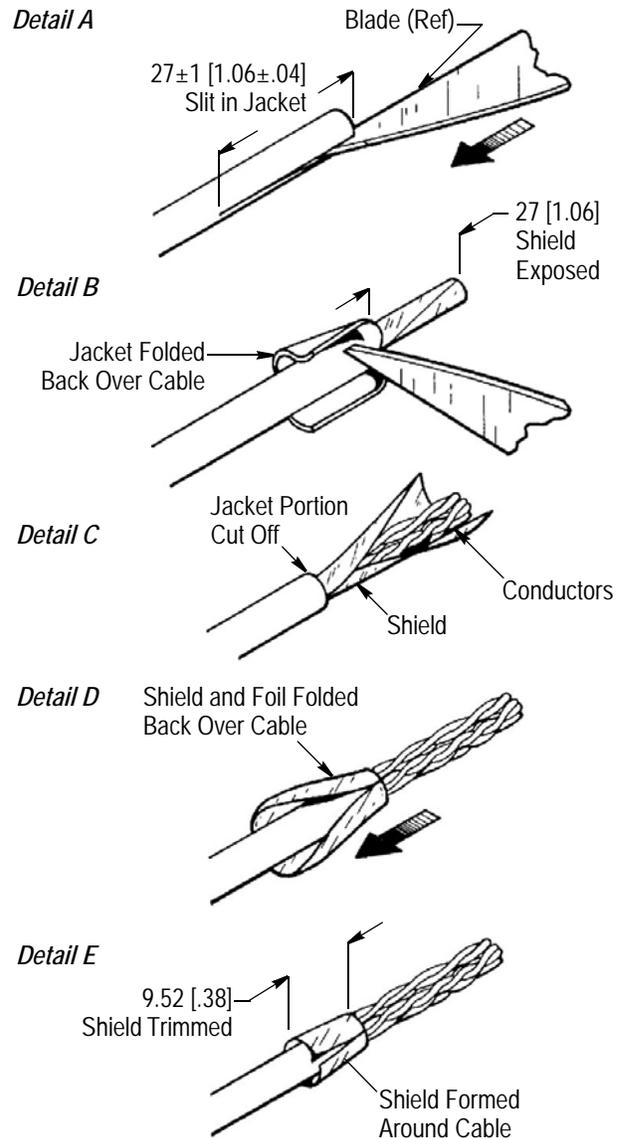

Figure 3
- a. Insert a blade tip between the shield and jacket. Slit the jacket back from the end to the dimension given in Figure 3.
jacket. Take care not to cut the shield. It is recommended that the conductors enclosed by the shield extend to the dimension given in Figure 3.
e. Trim the shield to the approximate length given in Figure 3. Form the shield smoothly around the cable, ensuring that the conductive surface of the shield is exposed; if it is not, form another fold.
5. Insert the cable signal conductors into the applicable position of the load bar and the crimped power receptacle contacts into the applicable tower of the load bar. Ensure that the locking lance of each power receptacle contact engages with the tower and that the space between the cable shield (shielded cable) or cable jacket (unshielded cable) and the notch of the load bar meets the dimension given in Figure 3, Detail A.